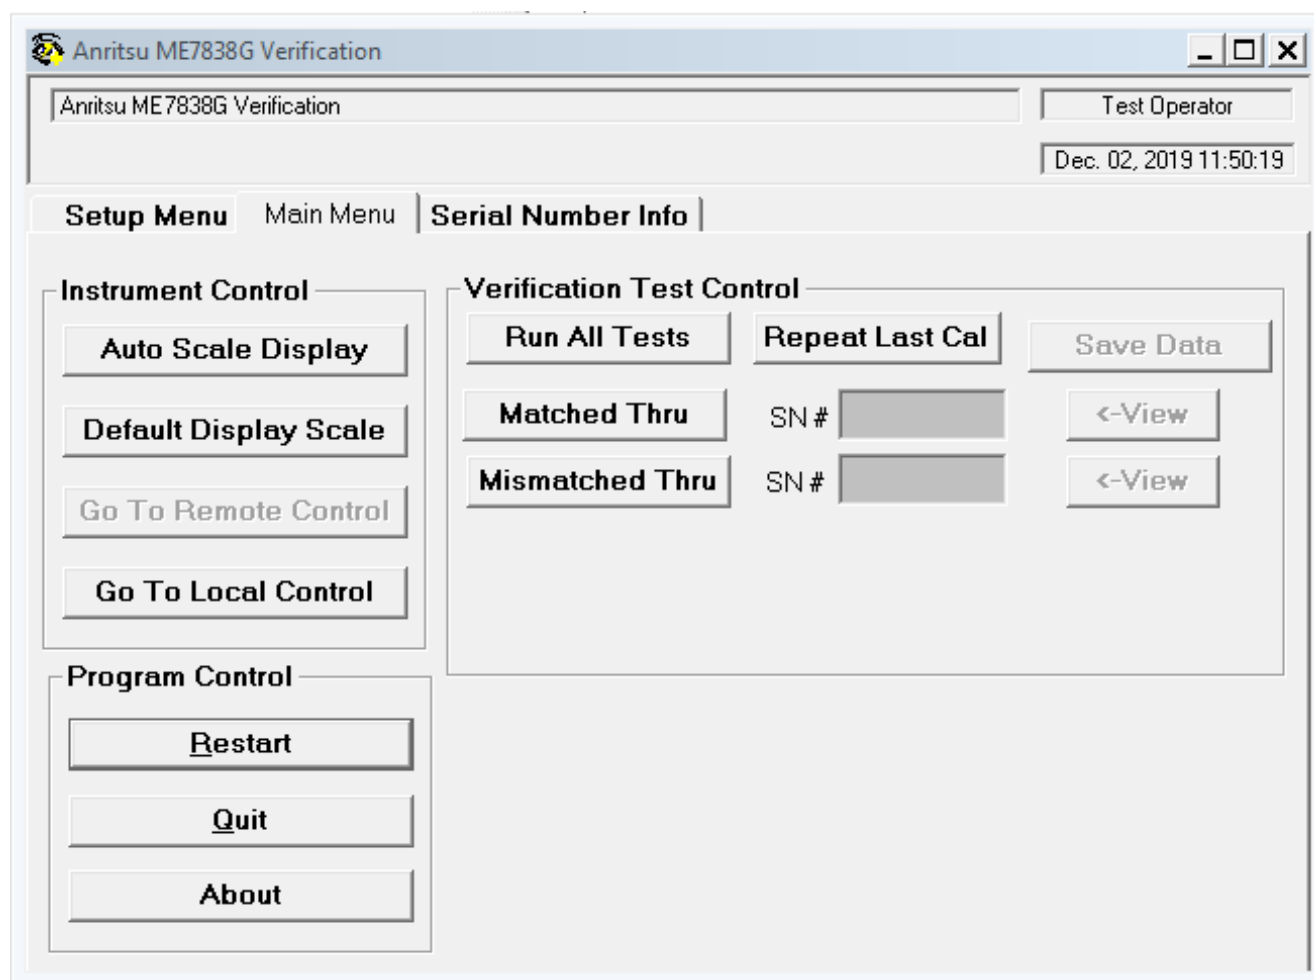

Figure 4-37. ME7838G Application Interface – Main Menu Tab
- The Main Menu tab display is described in the section immediately following and is shown below in Figure 4-37
9. If only the Matched Thru button was selected, the program returns to the “Application Interface – Main Menu Tab” on page 4-26. The dialog box is shown in Figure 4-37, “ME7838G Application Interface – Main Menu Tab” on page 4-26 above.